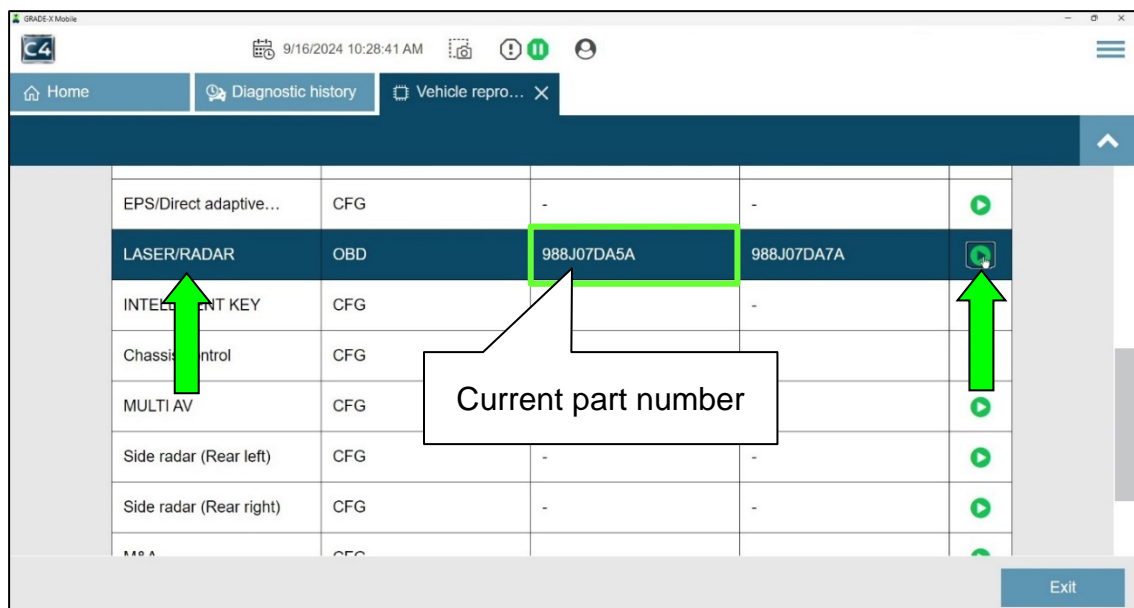

Figure 7
20. Select **LASER/RADAR** (Figure 7).